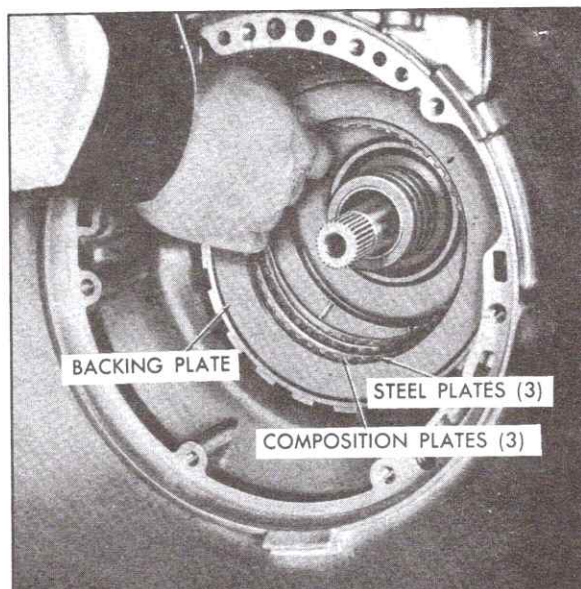

Fig. 7-95 Installing Intermediate Clutch Plates
13. Lubricate three steel and three composition intermediate clutch plates with transmission fluid and install clutch plates in transmission case, Fig. 7-95. Start with waved steel plate and alternate composition and steel plates.